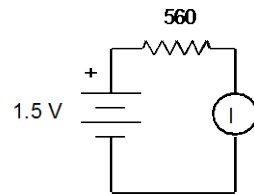
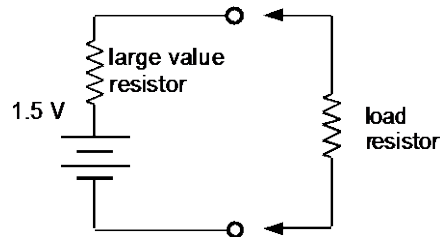

Figure 1-8.
Figure 1-9
- * – Measure the actual value of the resistor shown in Fig. 1-8. (Throughout this course, always measure your resistor values before assembling the circuit.)
- * Wire up the circuit in Figure 1-8. Set the function switch to the maximum current scale (2 A) and connect the meter into the circuit.
* Connect a 1.5 V battery and a large-valued resistor (3.3 k Ω or higher) to make a current source. For a load resistor, use the resistor substitution box (choosing values ranging from 0.1 to 2.0 times the value of the large resistor), as shown in Figure 1-9.
* Examining Figure 1-9, use the potentiometer, instead of fixed resistors, to hook up the circuit. Be sure that you apply the *input* voltage across the two terminals that have a *fixed* resistance. The *wiper* of the potentiometer should be the output terminal in the middle-right of Figure 1-8. Observe the output voltage while turning the potentiometer. If the output voltage increases as you turn the knob clockwise, you are done; otherwise change one of the *output* connections.